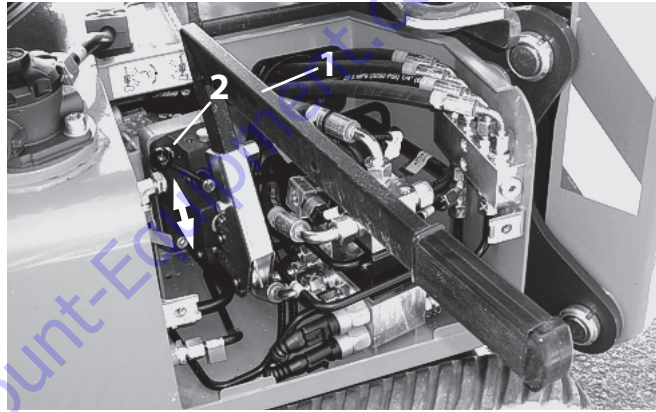

Figure 5-4. Hand Pump - At Front Of Hydraulic Tank
3. Install the pump handle on the hydraulic pump (*item 1 - Figure 5-4.*) and secure in place with the provided screw.
4. The manual pump lever (*item 2 - Figure 5-4.*) on the pump must be;
(*item 3 - Figure 5-4.*)
- Set the lever on the hydraulic hand pump (*item 2 - Figure 5-4.*), it must be **positioned up** to provide hydraulic pressure to operate **right side** outrigger, track functions, and boom components. When **positioned down** hydraulic pressure is provided to the **left side** outrigger, and track functions. (*See following decal.*)
- The lever on the hydraulic hand pump (*item 2 - Figure 5-4.*) must be **positioned down** to manually provide pressure to operate **left side** outrigger and track functions.
9. The lever on the hydraulic hand pump (item 2 - Figure 5-4.) must be **positioned up** to manually provide pressure to operate **right side** outrigger and track functions.